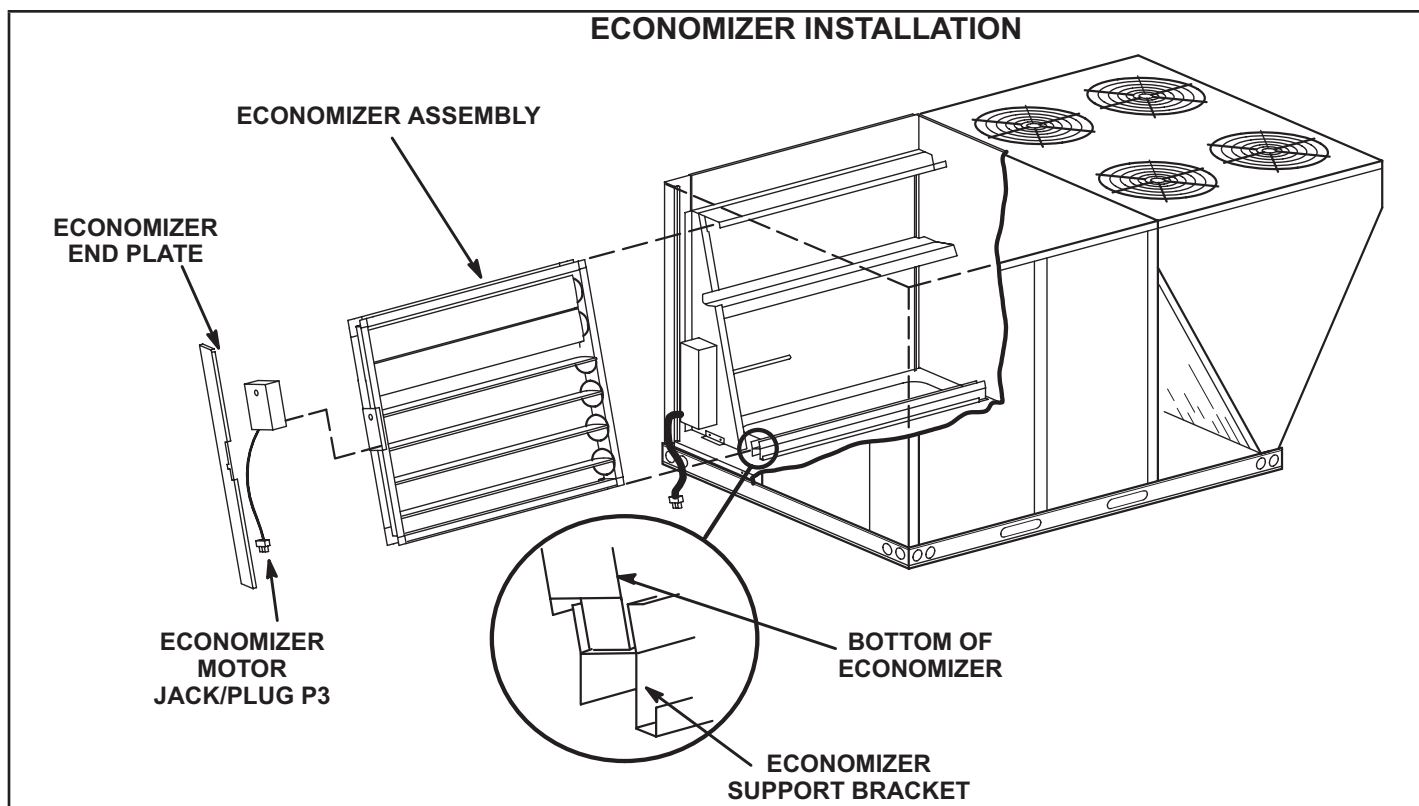

FIGURE 1
- 3 - Align bottom of economizer with economizer support bracket and slide economizer into unit. See FIGURE 1.